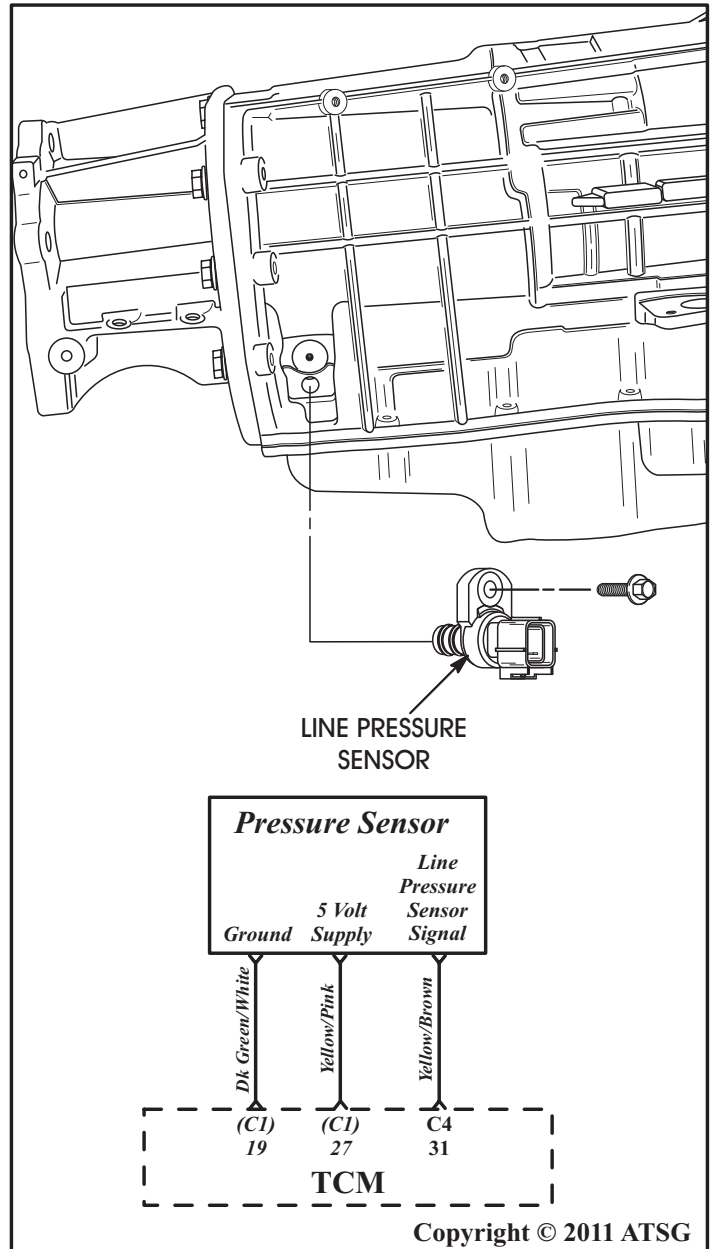

Figure 7
**Line Pressure Sensor** - is located on the right rear of transmission, as shown in Figure 7, and supplies the TCM with line pressure information. The line pressure sensor operates much like a throttle position sensor.